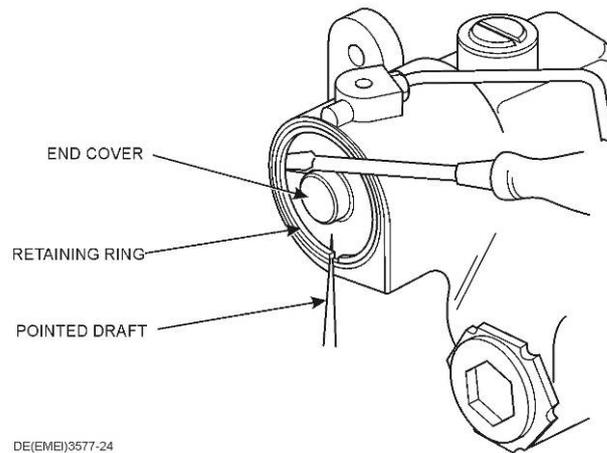

Figure 289 Removal of the Rack and Piston Retaining Ring
- c. Rotate the retaining ring (if necessary), at the rack and piston bore in the housing, until one end is approximately 12 mm (0.5 in) from the extractor hole. Insert a suitable pointed drift into the extractor hole to unseat the retaining ring from the groove (Figure 289) and remove the retaining ring. Rotate the steering input shaft toward the right hand lock until the piston pushes the end cover out from the rack and piston bore.